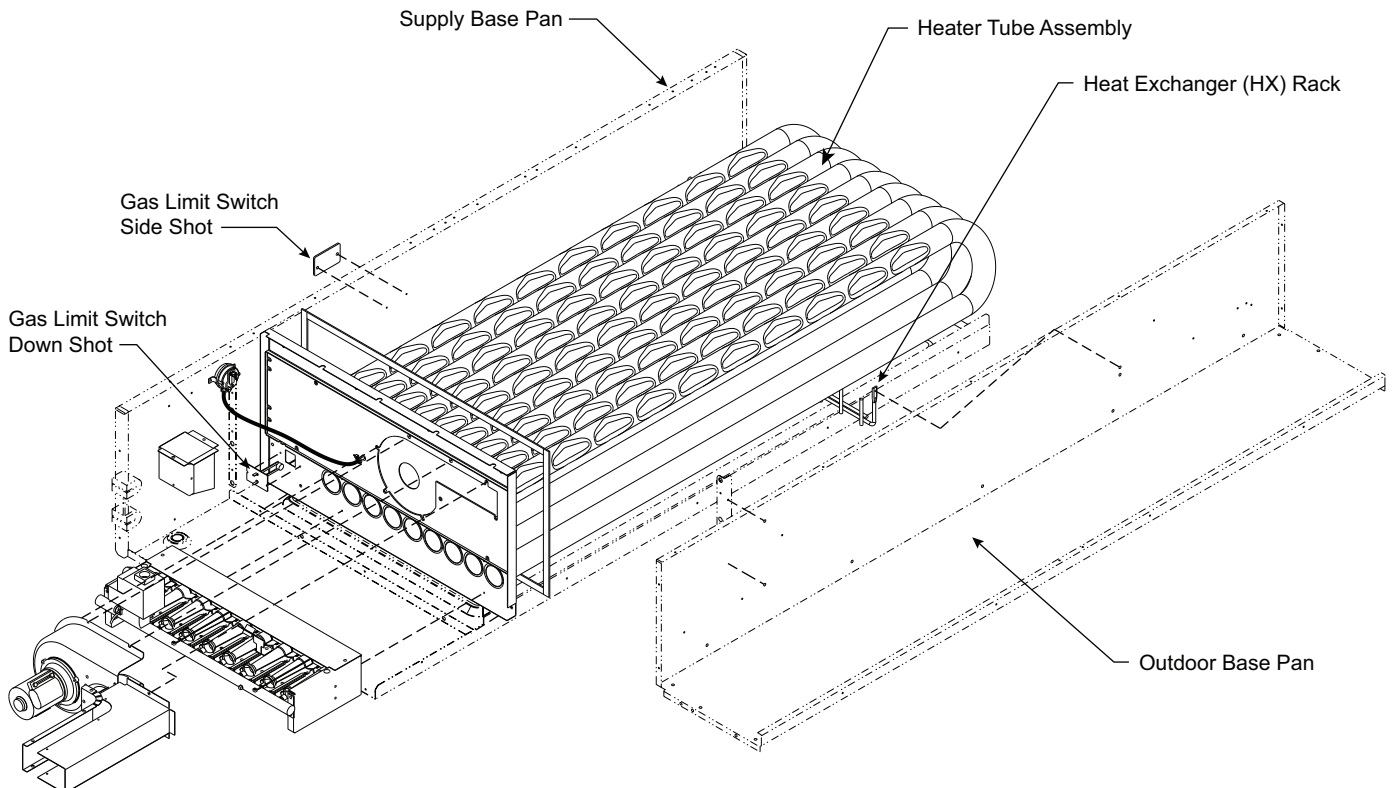

Fig. 53 — Heat Exchanger Access - Gas Limit Switches and HX Rack Locations
1. Remove the screw at the base of the burner partition panel (see Fig. 53) and slide out the panel.
12. Remove the nuts holding the heat exchanger support rack to the fan deck (see Fig. 53).
Remove the indoor blower access panel. Limit switch is located on the heat exchanger cover panel. See Fig. 53.